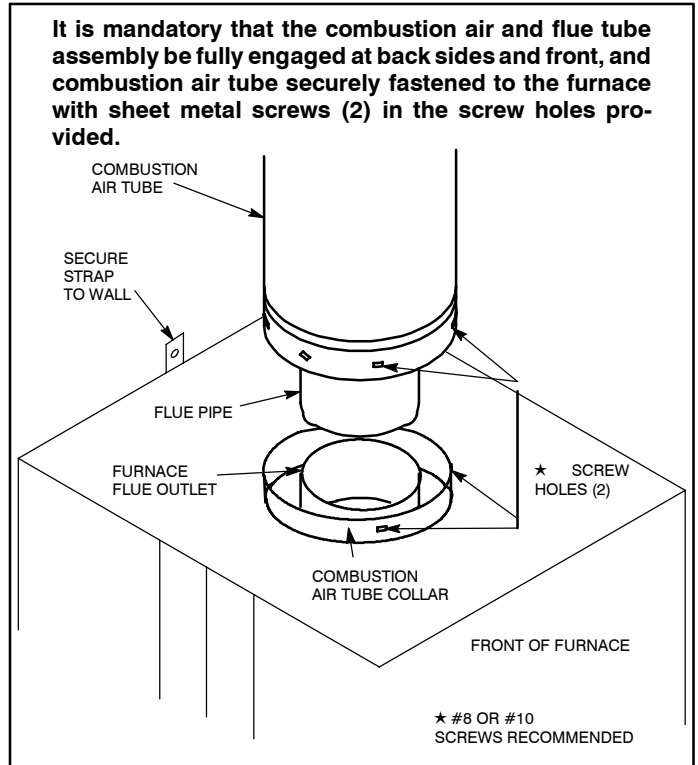

Figure 15 — Connecting Roof Jack to Furnace
2. Pull the telescoping flue tube and combustion air tube assembly down from the roof jack. Slide the flue tube/combustion air tube assembly down firmly over the furnace flue outlet and combustion air collar. Insure that the back, side and front of combustion air tube collar is fully engaged. Fasten the combustion air tube to the furnace combustion air collar using two (2) $1\frac{1}{2}$ inch sheet metal screws. (Screw holes are provided in combustion air tube and furnace combustion air collar. (See Figure 15.)